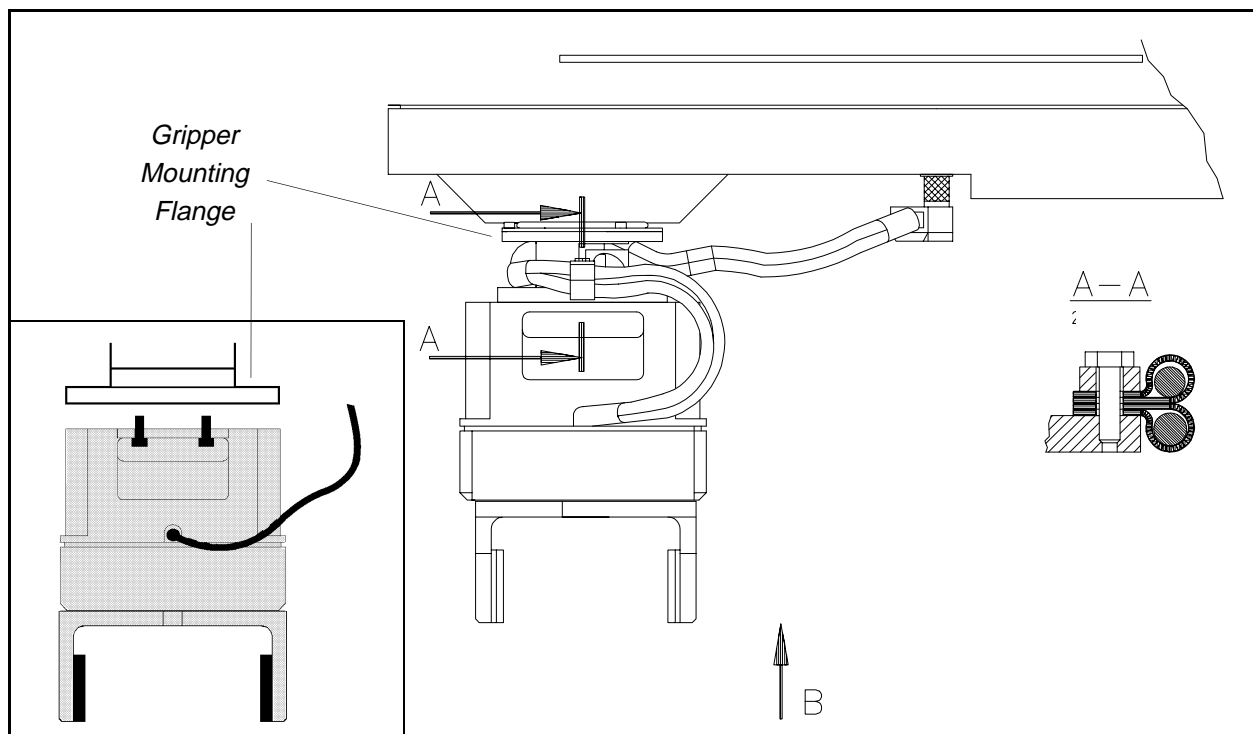
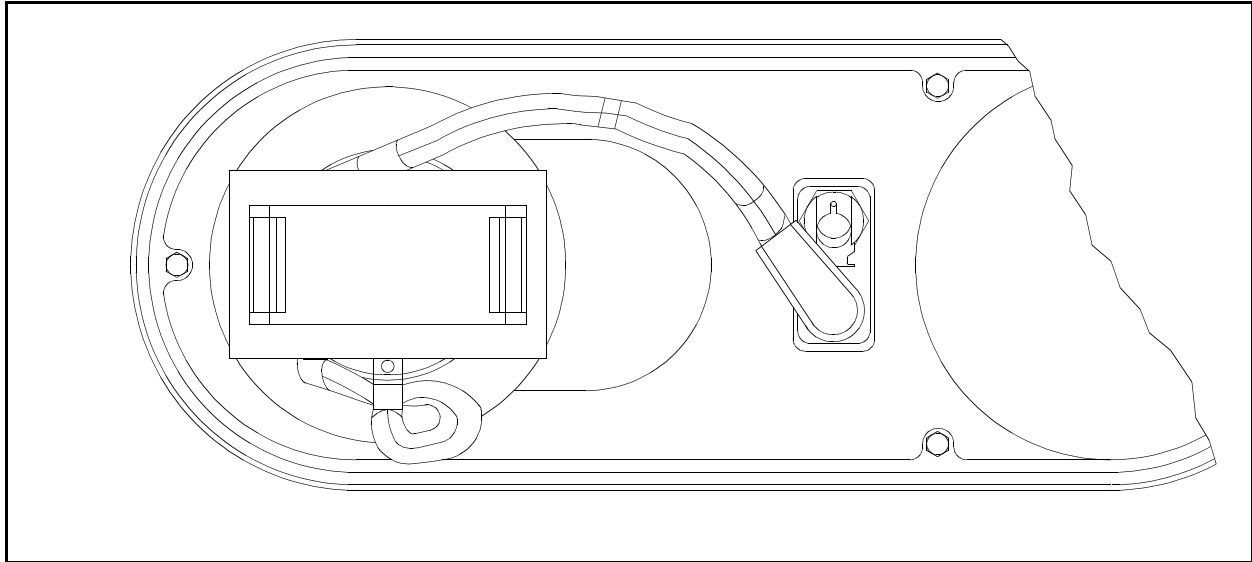

Figure 4-10: Connecting Gripper to SCORA-ER 14
Figure 4-11: Connecting Gripper to SCORA-ER 14
The electrical servo gripper is shown in the inset in Figure 4-10.
2. Connect the gripper cable to the electrical connector on the robot arm. Make sure the connector is oriented as shown in Figure 4-10.
3. Make sure the gripper cable is positioned as shown in both Figure 4-10 and Figure 4-11.
**Refer to A-A in Figure 4-10.** Fit the two cable clamps onto the two gripper cables. Place the clamps on the flange. Fit the spacer on the cable clamp screw, and then tighten the screw onto the flange.
6. At the end of each work session (before turning off the controller), or before homing the robot, make sure the gripper's position is as shown in Figure 4-11.